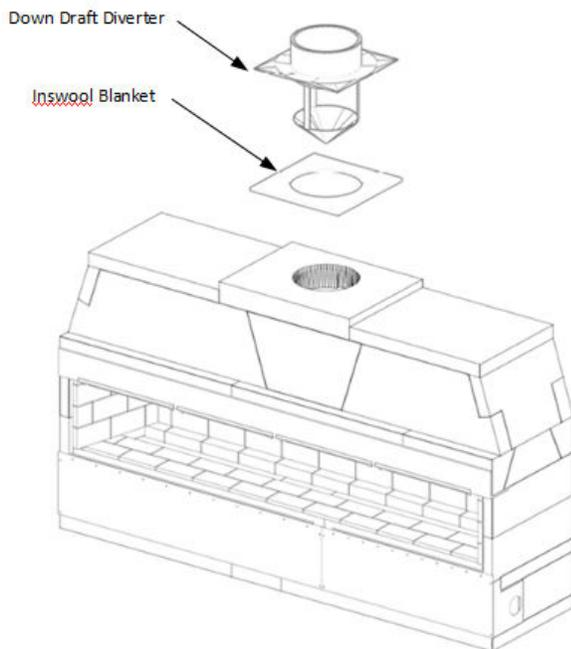
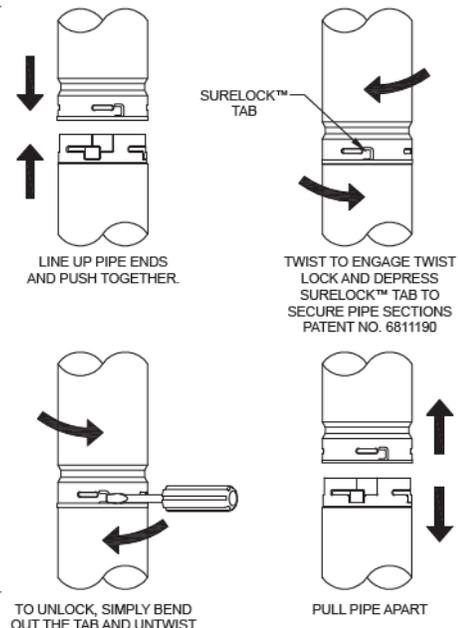

FIGURE 30
FIGURE 31
- 2) Center the Isowool blanket over Isokern Top Plate’s outlet and trace the outlet’s outline with a pen or marker. Cut a hole in the blanket along this outline to match the hole in the Isokern top plate. Center the cut Isowool blanket over the Isokern Top Plate flue opening, then center Anchor Plate over the Isowool blanket (**Figure 30**).
- 3) Secure the Anchor Plate with four (4) masonry anchors.
- 4) Starting at the anchor plate, attach the first section of B-Vent Pipe. A minimum of 12” of straight pipe will be required before any offset. The B-Vent sections and components use the Metal-Fab positive twist-lock for interconnections. Align the ends of the vent, push together then twist section to lock in place (**Figure 31**).